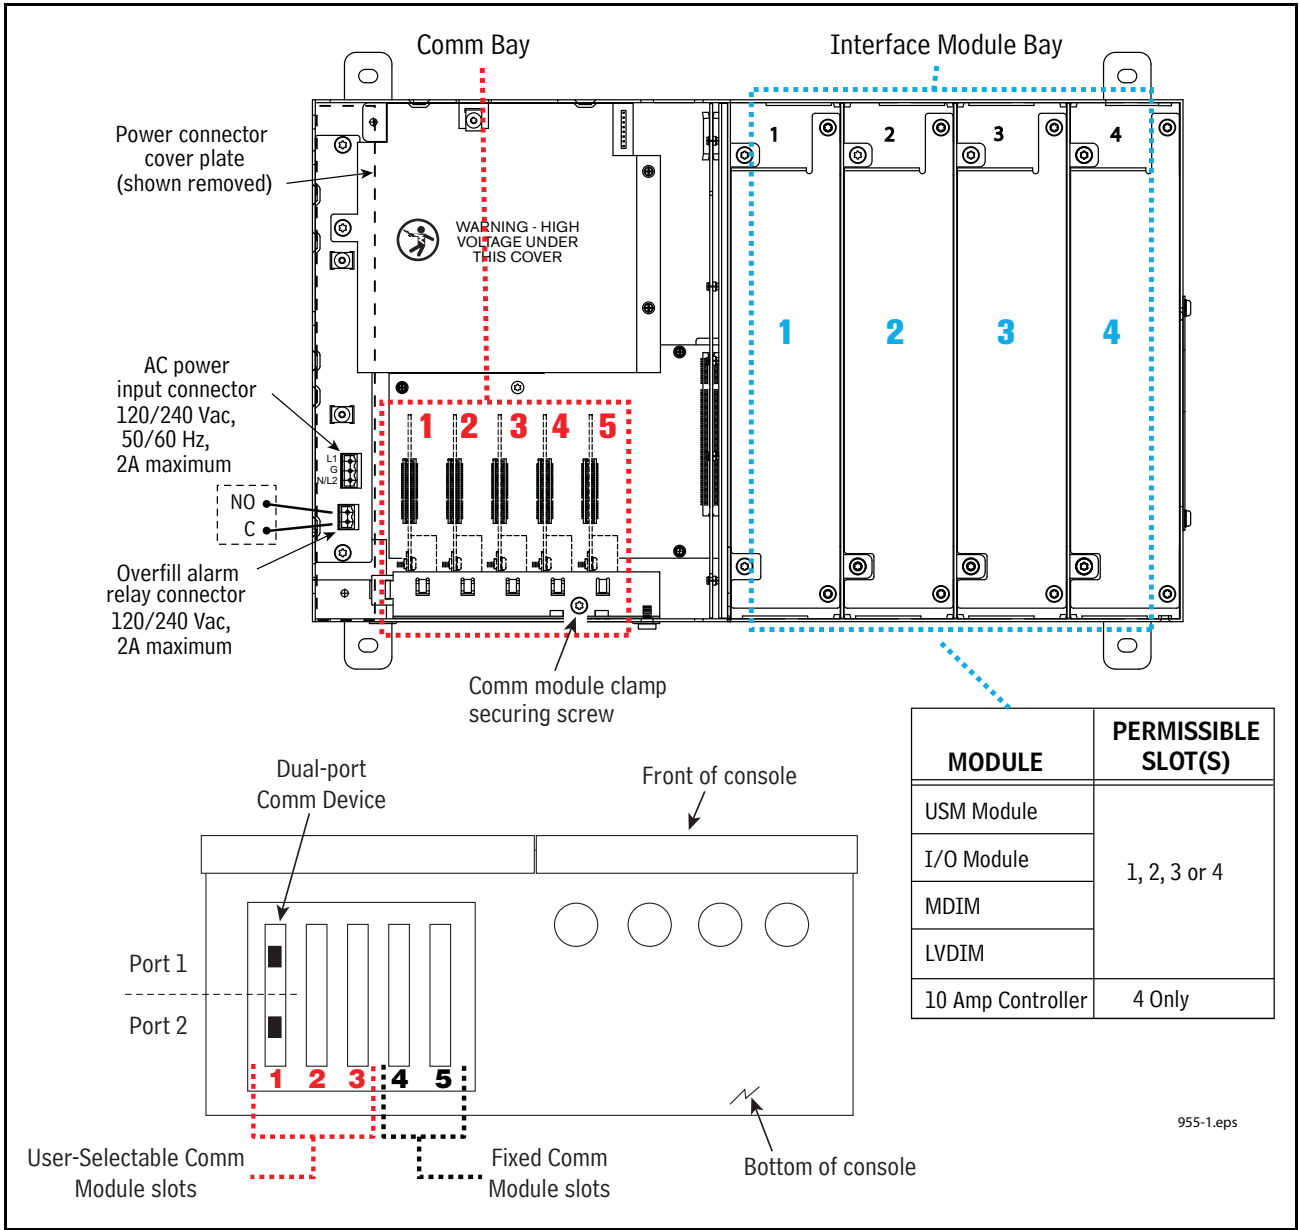

Figure 5. TLS-450 console plug-in module bays
Figure 5 illustrates the maximum number of modules allowed in each of the two bays of the console.
3. Each Interface slot is numbered from 1 to 4 from left to right as shown in Figure 5.
The TLS-450 doesn't have pre-assigned slots for the Module bay modules so you can use any of the four slots to accommodate intrinsically safe (USM) or non-intrinsically safe (I/O, MDIM, etc.) modules (see Figure 5). Since the Module Bay modules can be installed in any of these 4 slots, install them where it makes the most sense for conduit connections. **Caution!** USM wiring inputs are intrinsically safe and conduit containing this wiring must attach to the knockouts above or below the slot in which you install the USM module.
3. Figure 5 illustrates acceptable Intrinsically-Safe USM module positions in the Module Bay of the console. After installing the USM module, remove a connector from the USM module, loosen the screws, insert your wires and tighten well. Don't let loose wires on the connector drive you crazy when you begin the startup and probes or sensors are missing – make sure these wires are tight in the connector block. Connect all probe and sensor wires and then reconnect your block to the USM module.
Figure 5 illustrates acceptable Non-intrinsically Safe module positions in the Module Bay of the console.
3. The Comm Bay is divided into 5 communication slots numbered from 1 to 5 going left to right (see Figure 5).
5. Using a T-15 Torx driver, loosen the screw securing the Comm module clamp until you can remove the clamp (see Figure 5).
4. Communication modules are only allowed in specific communication slots defined in Figure 5 above.